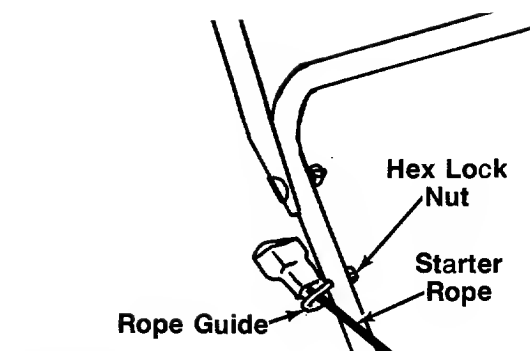

FIGURE 7.
- ← 3. Place the rope guide around the starter rope, so the rope guide is positioned as shown (bends downward slightly). Insert the rope guide through the right side of the lower handle, and secure with hex lock nut. See figure 7.